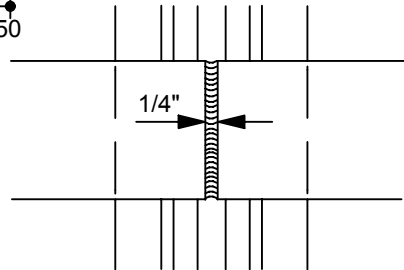

FIGURE 2
- STEP D:** Install exterior horizontal covers. Covers should not exceed a maximum of 10 feet. If an elevation is longer than 10 feet, splice the horizontal covers at mullions as shown (Figure 2).